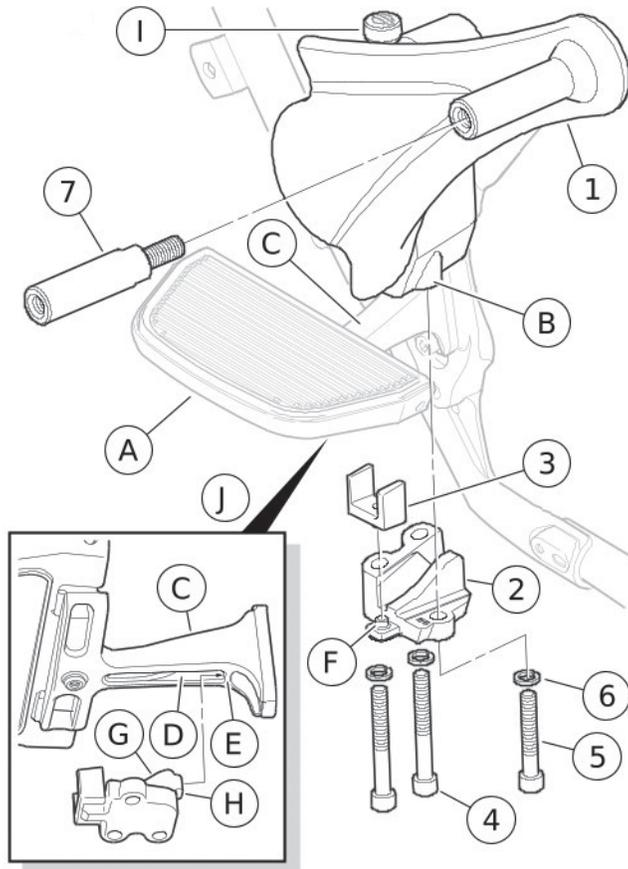

Figure 1. Service Parts, Adjustable Auxiliary Passenger Footpeg Mount Kit (Right Side Shown)
2. See Figure 1. Disassemble the lower clamp (2) from the upper clamp (B) on the adjustable arm assembly (1).
- a. Place the stop pad (3) onto the peg (F) of the lower clamp.
- b. Position the lower clamp around the underside of the passenger footboard mount (C).
- c. Insert the rib (G) of the lower clamp into the slot (D) in the underside of the passenger footboard mount.
- d. Slide the lower clamp toward the motorcycle until the boss (H) on the lower clamp contacts the rib (E) on the underside of the passenger footboard mount.